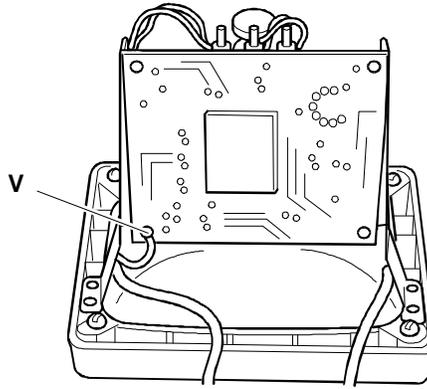

Fig. 35-7 Removing the Degaussing Cable Screw
9. Remove the screw shown in figure 35-7 to free the black degaussing cable.